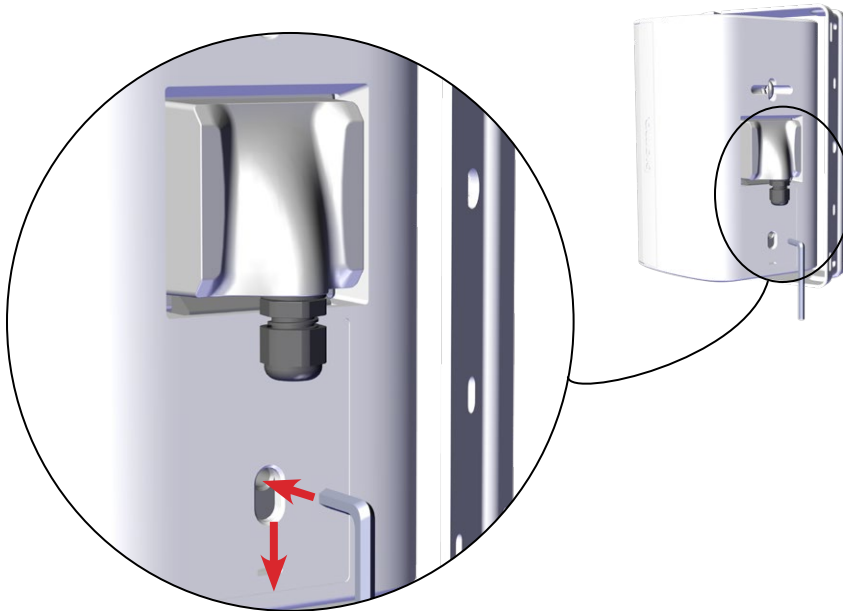

Figure 15a. Insert the hex wrench into hole and pull down to release latch
1. Insert a 5mm hex wrench into the hole within the slot in the middle of the label on the rear panel (Figure 15a).